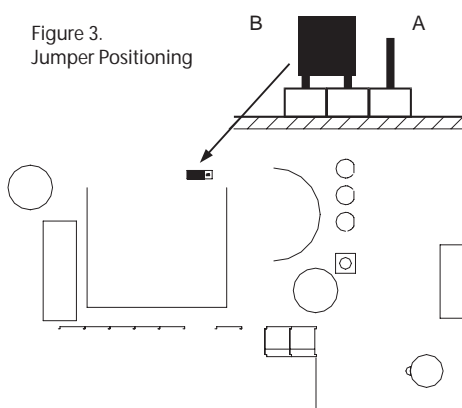

Figure 3. Jumper Positioning
The output SEGUGIO can drive a 6V, 0.5W electrovalve. An internal black jumper (Fig. 3) selects between the electro-valve type: normally open (A) or normally closed (B).